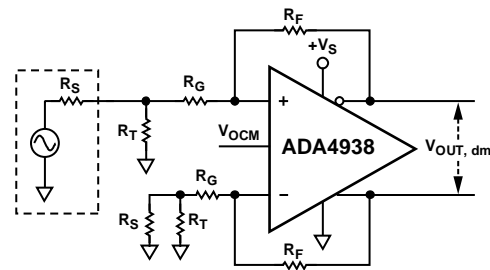

Figure 60. ADA4938-x Configured for Unbalanced (Single-Ended) Input
For an unbalanced, single-ended input signal (see Figure 60), the input impedance is
**Table 11. Single-Ended Ground-Referenced Input, DC-Coupled,  $R_S = 50\ \Omega$ ; See Figure 60**